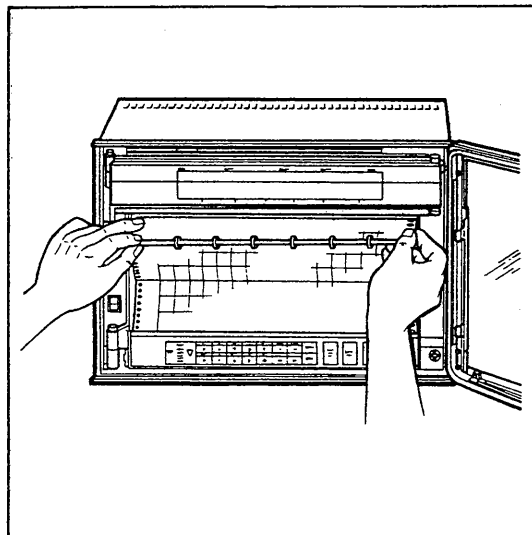

Figure 5-7.
- (7) Replace the chart paper holder roller in position (see Figure 5-7).
- (1) Open the front door by inserting fingertips into the recessed area on the left side near the front and pull outward. (See Figure 5-7.)